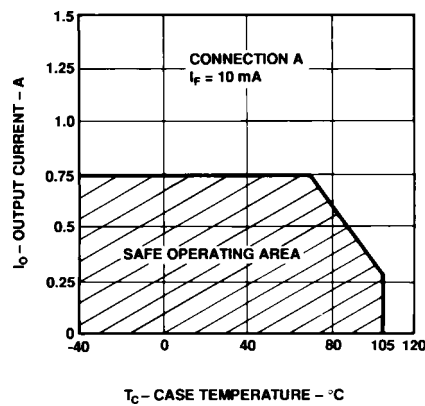
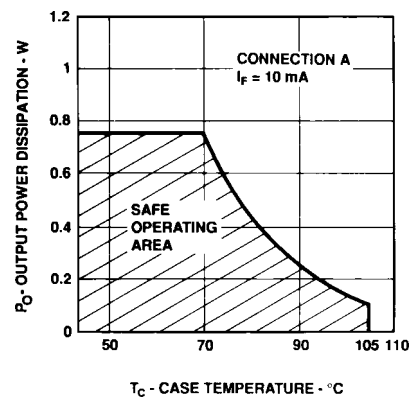

Figure 3B. Maximum Average Output Current Rating vs. Case Temperature.
Figure 4. Output Power Derating vs. Case Temperature.
2. For derating, see Figure 4. The output power  $P_O$  derating curve is obtained when the part is handling the maximum average output current  $I_O$  as shown in Figure 3.
Derating curves are shown in Figures 3 and 4. Figure 3 specifies the maximum average output current allowable for a given ambient or case temperature. Figure 4 specifies the output power dissipation allowable for a given case temperature. Above a case temperature of  $93^\circ\text{C}$ , the maximum allowable output current and power dissipation are
related by the expression  $R_{SS} = P_O(\text{max})/(I_O(\text{max}))^2$  from which  $R_{SS}$  can be calculated. Staying within the safe area assures that the steady state junction temperatures remain less than  $125^\circ\text{C}$ . As an example, for a case temperature of  $100^\circ\text{C}$ , Figure 4 shows that the output power dissipation should be limited to less than 0.5 watts. A check with Figure 3B shows that the output current should be limited to less than 150 mA. This yields an  $R_{SS}$  of  $22\ \Omega$ .